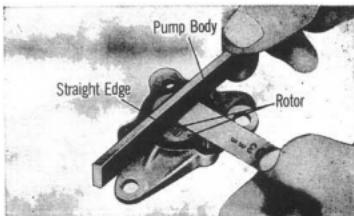

Fig. 11
3. Measuring the end clearance of the rotor. Place a straight edge across the pump housing and check the clearance of the rotor with a thickness gauge (Fig. 11).